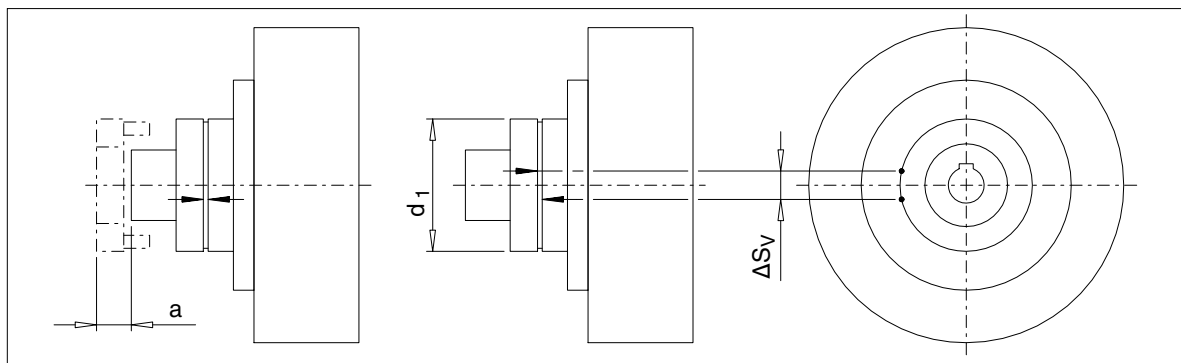

Fig. 11: Maintenance interval of the N-EUPEX add-on coupling
If an increased coupling backlash does not impair the operation of the coupling, the flexible elements (12) can continue to be used up to a specified wear limit before being replaced. To assess wear, the permitted torsional backlash, converted to the chord dimension ΔS_V on the outer coupling diameter, is shown in table 10. To obtain the dimension ΔS_V , one coupling part is rotated without torque as far as the stop and a mark applied to both side (see figure 11). If the coupling part is rotated in the opposite direction of rotation as far as the stop, the marks move apart. The distance between the marks is the chord dimension ΔS_V . If the dimension ΔS_V exceeds the value in table 10, the flexible elements (12) must be replaced.
On the FAD design replacement of the flexible elements (12) is possible without moving the coupled machines, if the replacement dimension "a" (see table 10 and figure 11) is allowed for. After the screw connection part 2/3 is released, part 3 is shifted axially and turned towards part 2. The flexible elements (12) are now freely accessible.